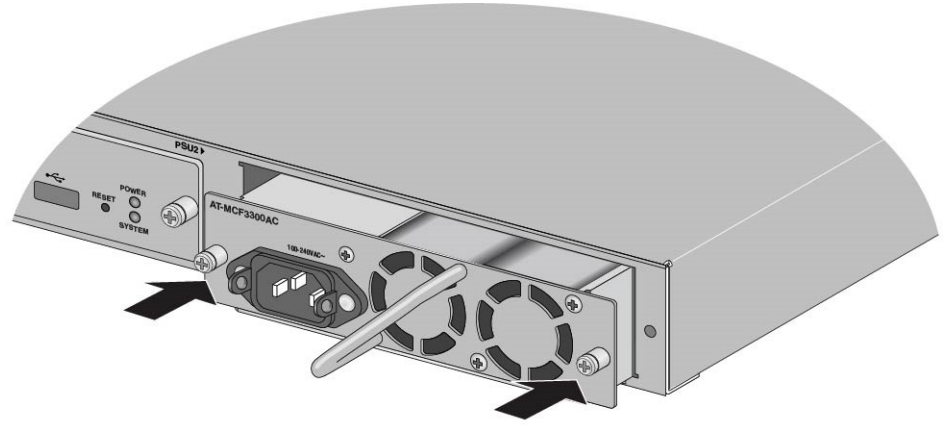

Figure 41. Seating the Power Supply on the Connector in the Chassis
5. Press on both sides of the faceplate to seat the power supply on the connector inside the chassis. Refer to Figure 41 on page 75.